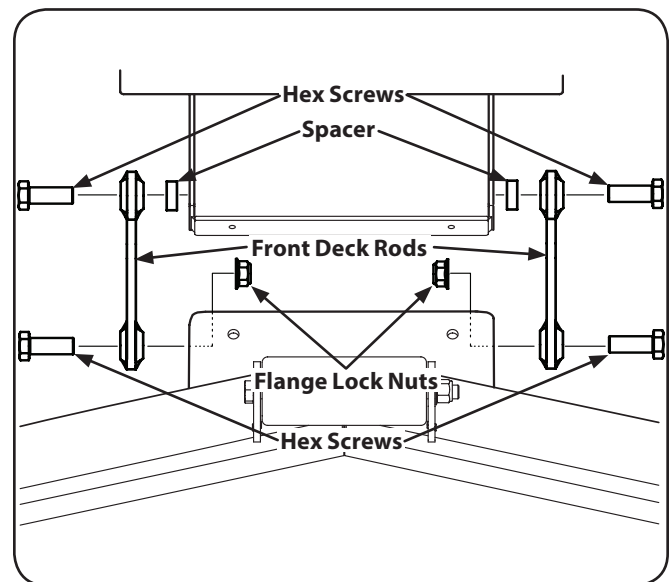

Figure 7-4
6. Remove the hex screw, spacer and flange lock nut securing the deck control rods to the deck. See Figure 7-4.